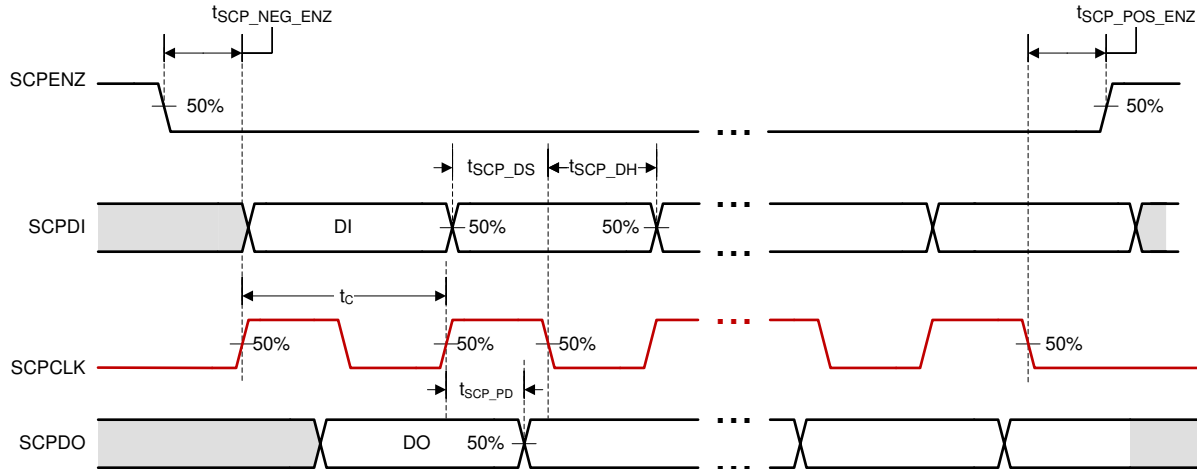

Figure 6-2. SCP Timing Requirements
- (5) Low-speed interface is LPSDR and adheres to the Electrical Characteristics and AC/DC Operating Conditions table in JEDEC Standard No. 209B, "Low-Power Double Data Rate (LPDDR)" JESD209B. Tester conditions for V_{IH} and V_{IL} .
- (6) PWRDNZ input pin resets the SCP and disables the LVDS receivers. PWRDNZ input pin overrides SCPENZ input pin and tristates the SCPDO output pin.
- (7) The SCP clock is a gated clock. Duty cycle must be 50% $\pm$ 10%. SCP parameter is related to the frequency of DCLK.
- (8) See Figure 6-2.